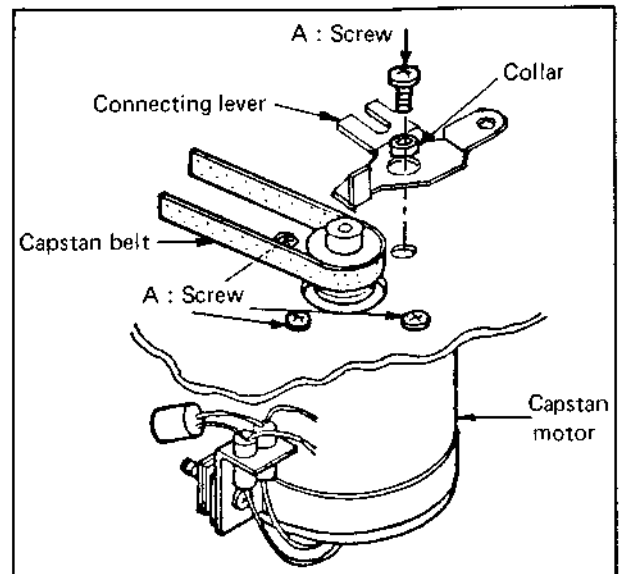

Fig. 4-41
1. Take out 4 screws A (Fig. 4-41) from the upper side of the chassis and remove the motor together with the connecting lever.